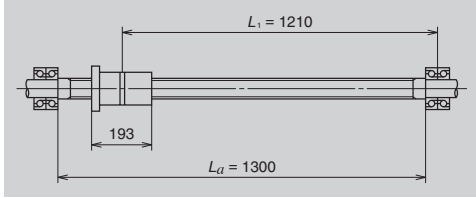

Fig. 16.4 Examination of buckling load
Calculate buckling load for conditions shown in Fig. 16.4 with  $P = 10354$  (N) and  $L_1 = 1210$  (mm)